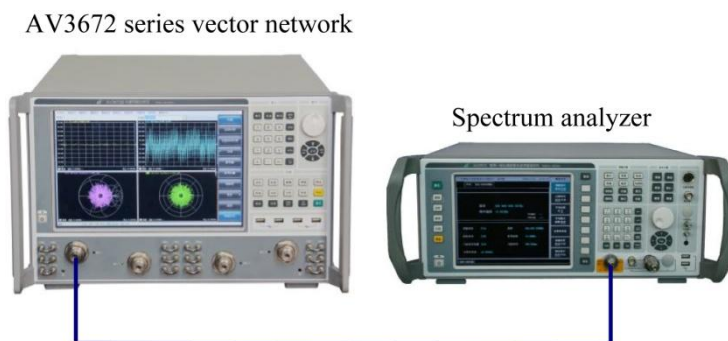

Fig. 11.3 Block Diagram of Test of Harmonic/Non-harmonic Suppression Test
- 1) As shown in Fig. 11.3, connect the system and preheat is for 60min at least.
- 5) Respectively change the test frequency of the vector network analyzer and spectrum analyzer. Repeat Step (4) and measure the non-harmonic suppression indicators of other frequency points.